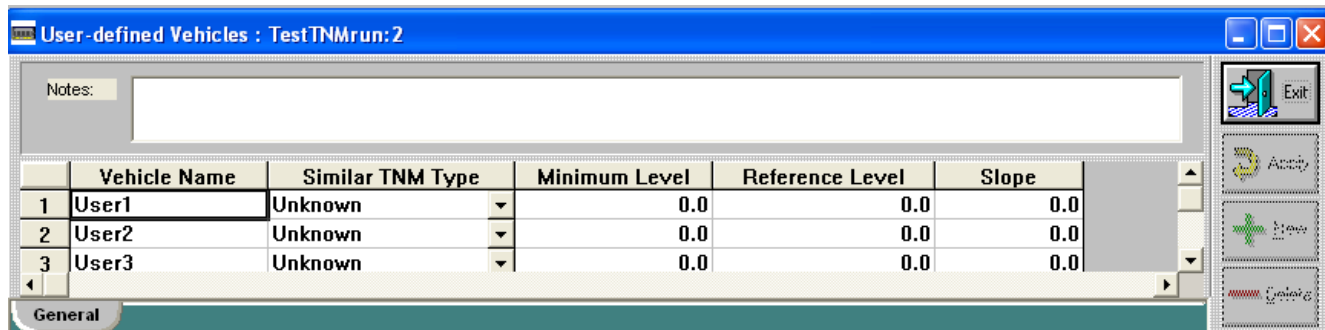

Figure 49. User-defined vehicles input: General tab.
3. Select Input, User-defined Vehicles in the main menu (see Figure 49).